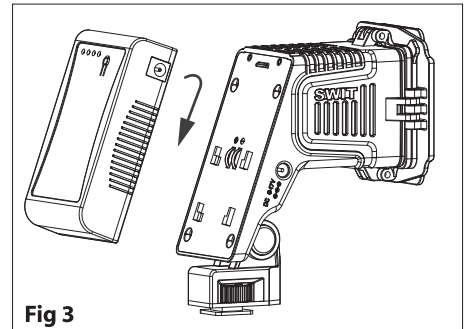

Fig 3
- ① Make sure there's no power lead connected into DC-IN socket and the light is switched off (turn the switch to "O"). Align a fully charged S-8040 battery to the DV mount slot to same side, and press tightly in. Slide the battery downward to snap together. See Fig 3